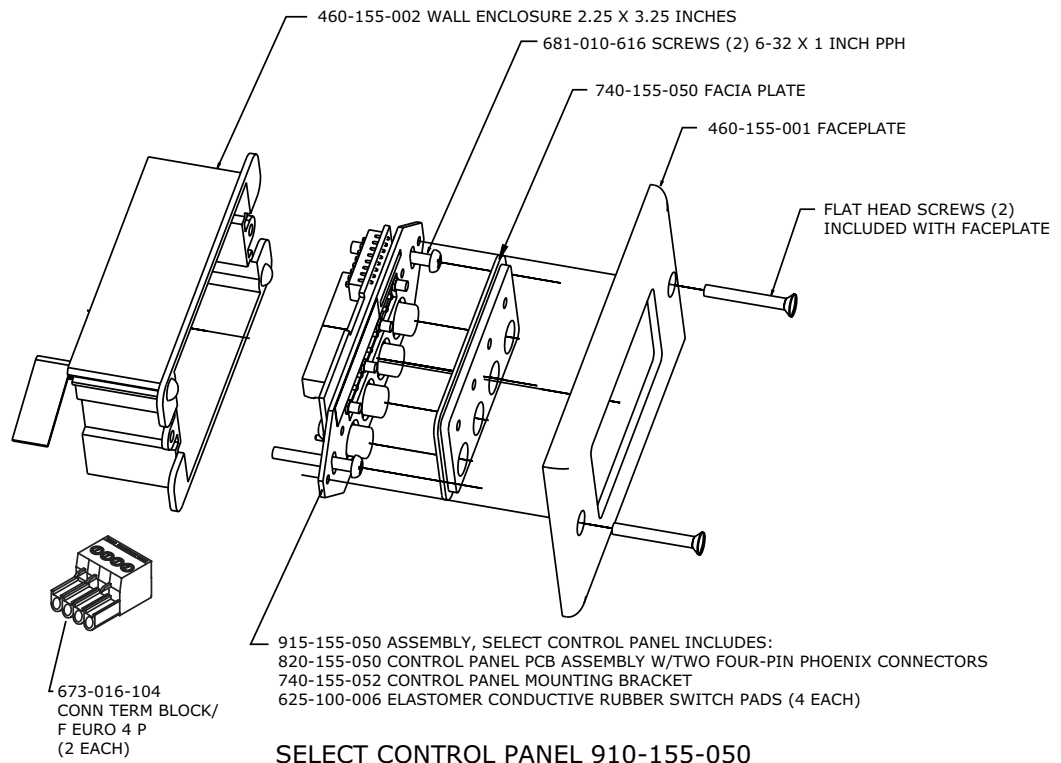

Figure C.5. Select Control Panel Assembly
1. Ensure you received a facia plate; a Control Panel assembly with mounting bracket and two RS-485 Phoenix four-pin connectors; two connector terminator blocks; a faceplate; two flat HD screws; two pan-head screws; and an electrical wall box (shown in Figures C.5 and C.6). If any parts are missing, please contact ClearOne.
- As shown in Figures C.5 and C.6, use the supplied pan-head screws to install the Control Panel PCB assembly to the electrical wall box.
- To install the fascia plate, position it over the conductive rubber switch pads on the PCB assembly, as shown in Figures C.5 and C.6.